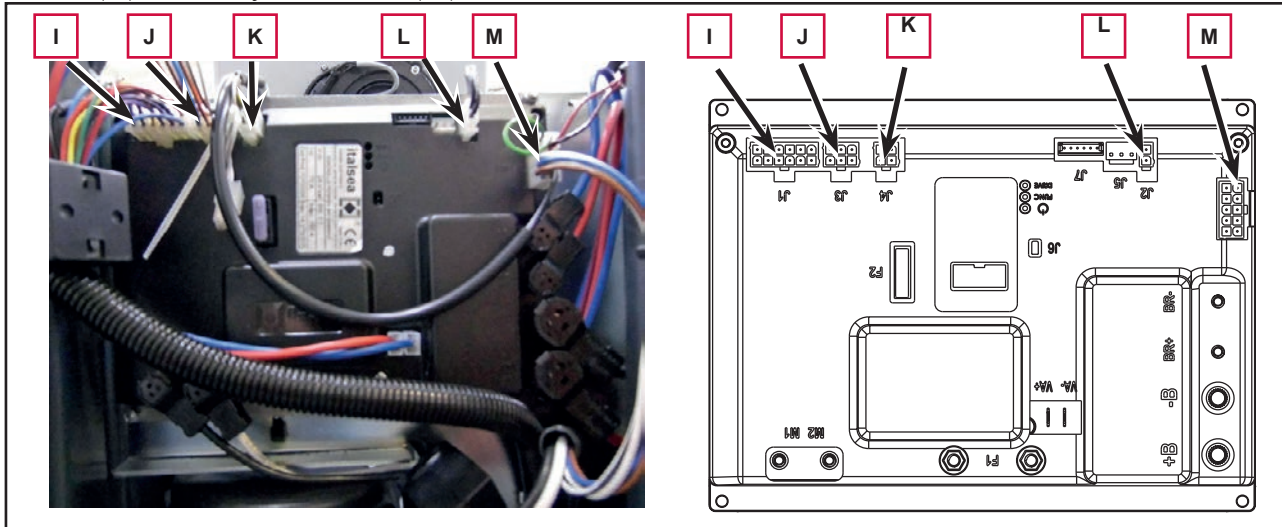

Figure 11
8. Disconnect the following connections (Figure 11):
- (I) Key, accelerator and steering wheel electronic board connection (J1).
- (J) Squeegee actuator, beacon light and driver's seat sensor connection (J3).
- (K) Battery charger connection (J4).
- (L) Brush deck actuator connection (J2).
- (M) Accessory connection (J8).